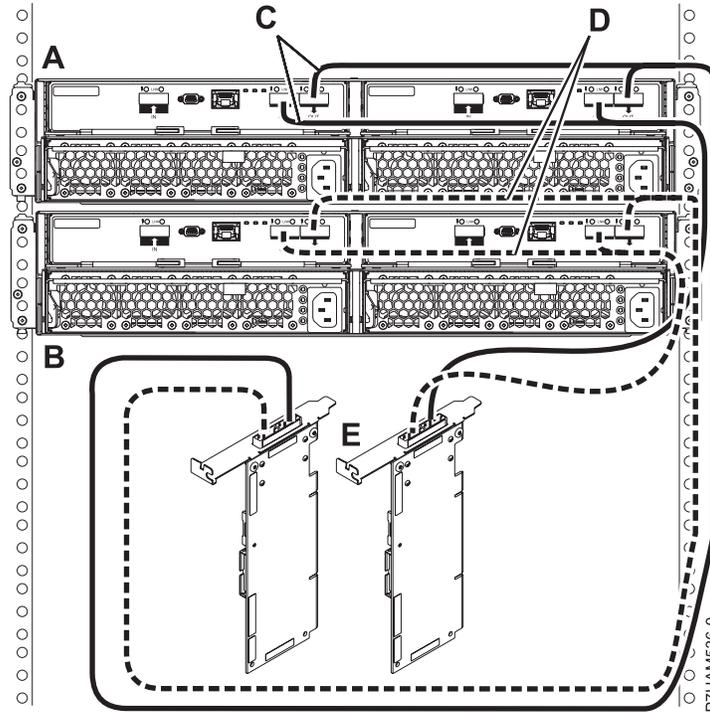

Figure 32. Mode 1 connection of two 58/87 disk drive enclosures by using YO cables to a SAS adapter pair
- i. Perform the mode 1 connection of two 58/87 disk drive enclosures (**A and B**) by using YO cables (**C and D**) to a SAS adapter pair (**E**) as shown in Figure 32 on page 29.